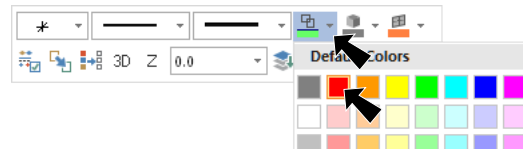

Fig. 5
Step 4. **Right click** in the graphics window and on the Mini Toolbar click **Wireframe Color**  drop down arrow and select **red**, **Fig. 5**.